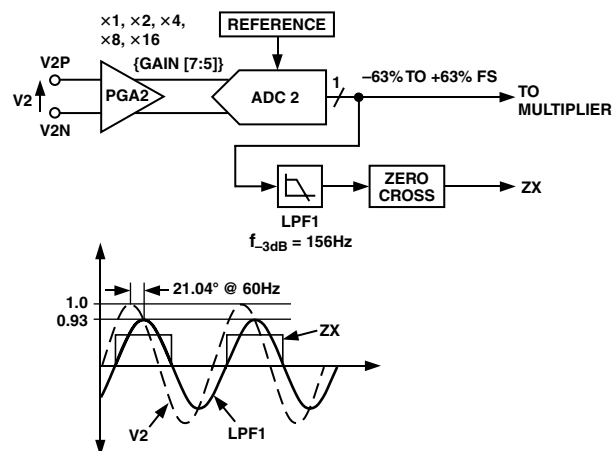

Figure 14. Zero Cross Detection on Channel 2
The ADE7759 has a zero crossing detection circuit on Channel 2. This zero crossing is used to produce an external zero cross signal (ZX), and it is also used in the calibration mode—see Energy Calibration section. The zero crossing signal is also used to initiate a temperature measurement on the ADE7759—see Temperature Measurement section. Figure 14 shows how the zero cross signal is generated from the output of LPF1.